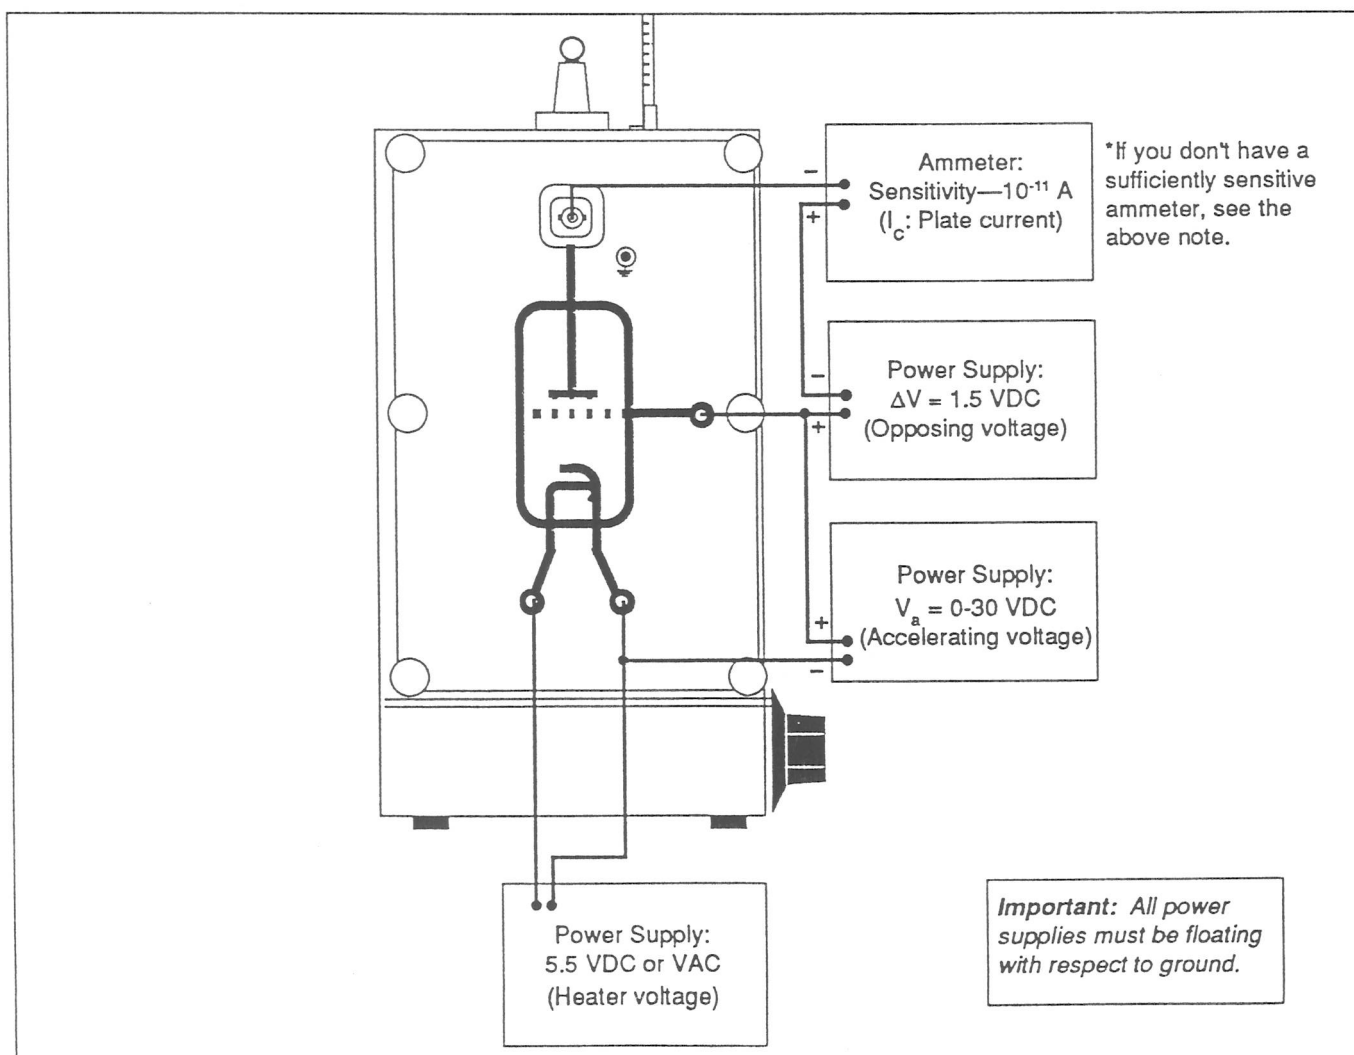

Figure 5 Franck-Hertz Experiment Without the Control Unit
4. Connect the tube, power supplies, and ammeter* as shown in Figure 5.
***Note:** If you don't have a sufficiently sensitive ammeter to accurately measure the anode current, you can use a voltmeter instead. The voltmeter must have 0.1 mV resolution and a 10 M Ω input impedance. Connect it just as the ammeter is connected in Figure 5. The voltage reading of the voltmeter will then be equal to the anode current, in units of 10^{-11} amperes.